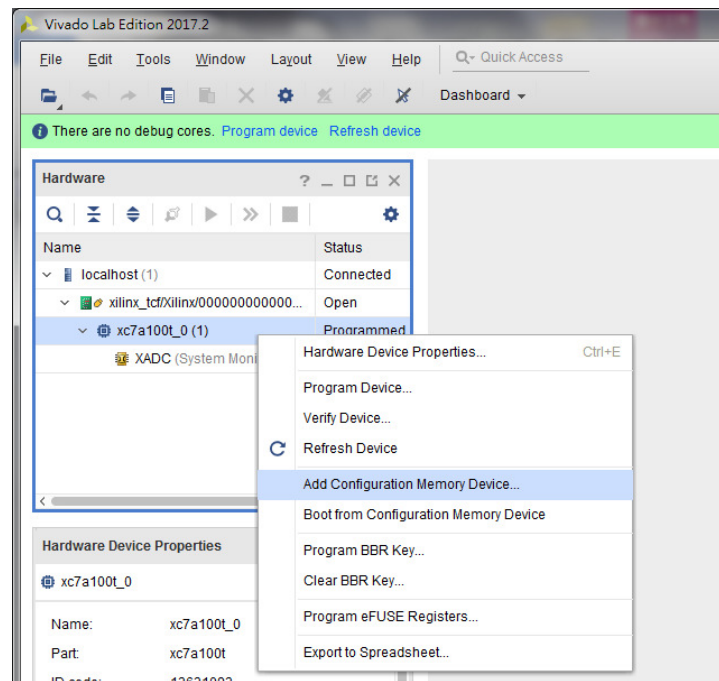

Figure 10. Add Configuration Memory Device
- ❖ Right click on “xc7a100t_0 “ and select “Add Configuration Memory Device” as Figure 10.